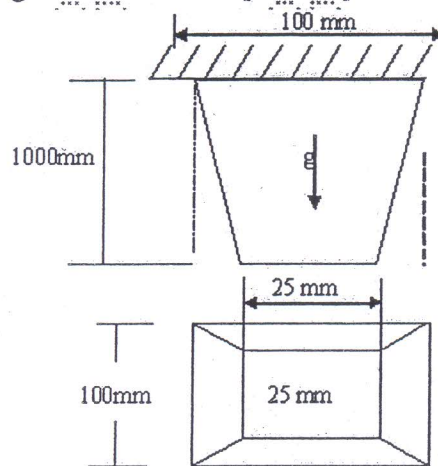

Figure.3
3. Determine the deflection at the free end under its own weight using three elements shown in figure.3, $E = 200 \text{ Gpa}$ and $\rho = 7800 \text{ kg/m}^3$. [15]